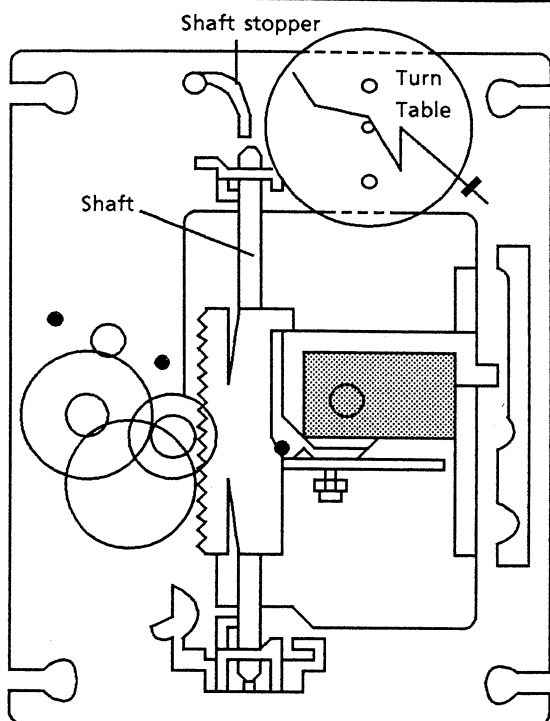

Fig 13 CD mechanism assembly
2. Release the shaft to remove the pickup (Fig 13).